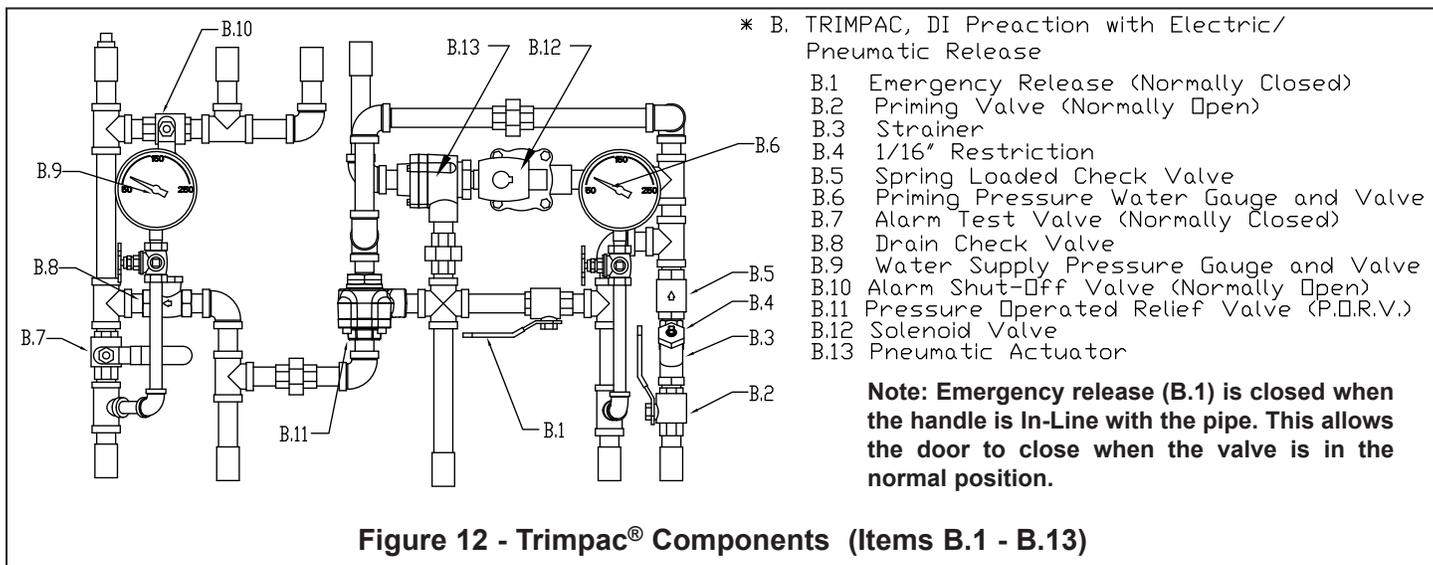

Figure 12 - Trimpac® Components (Items B.1 - B.13)
- Trimpac Components (See Figure 12)
- C.1 Auxiliary Drain Valve (NC)
- C.4 Flow Test Valve (NC)